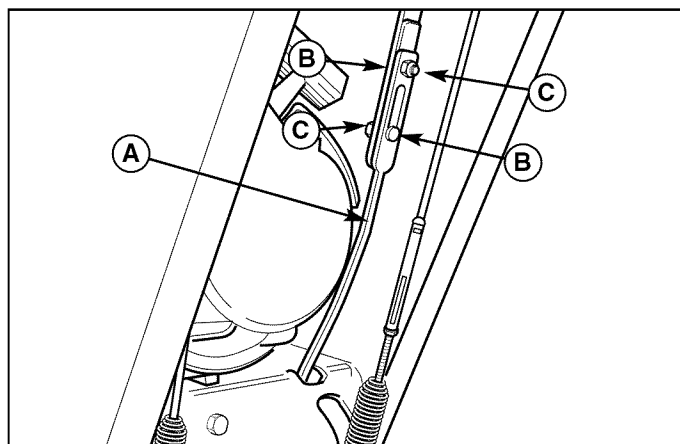

Figure 19. Speed Selector Linkage
1. Loosen the two nuts (C, Figure 19).
3. Push the lower rod into the housing and tighten the two nuts (C). Do not lift up or down on rods while tightening. Make sure the shoulders of the carriage bolts (B) are in the slots.